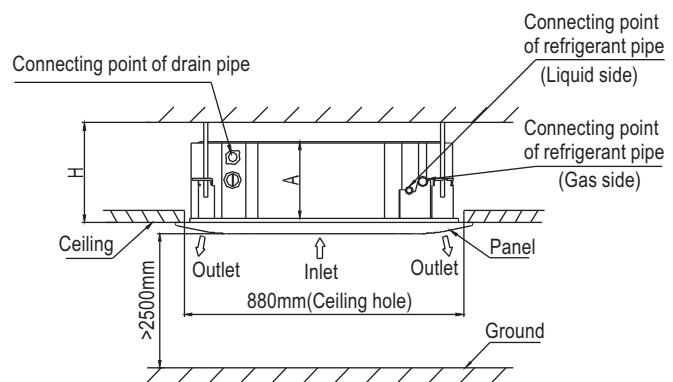

Fig.1-2
- 1 Cut a quadrangular hole of 880x880mm in the ceiling according to the shape of the installation paper board.(Refer to Fig.1-2)